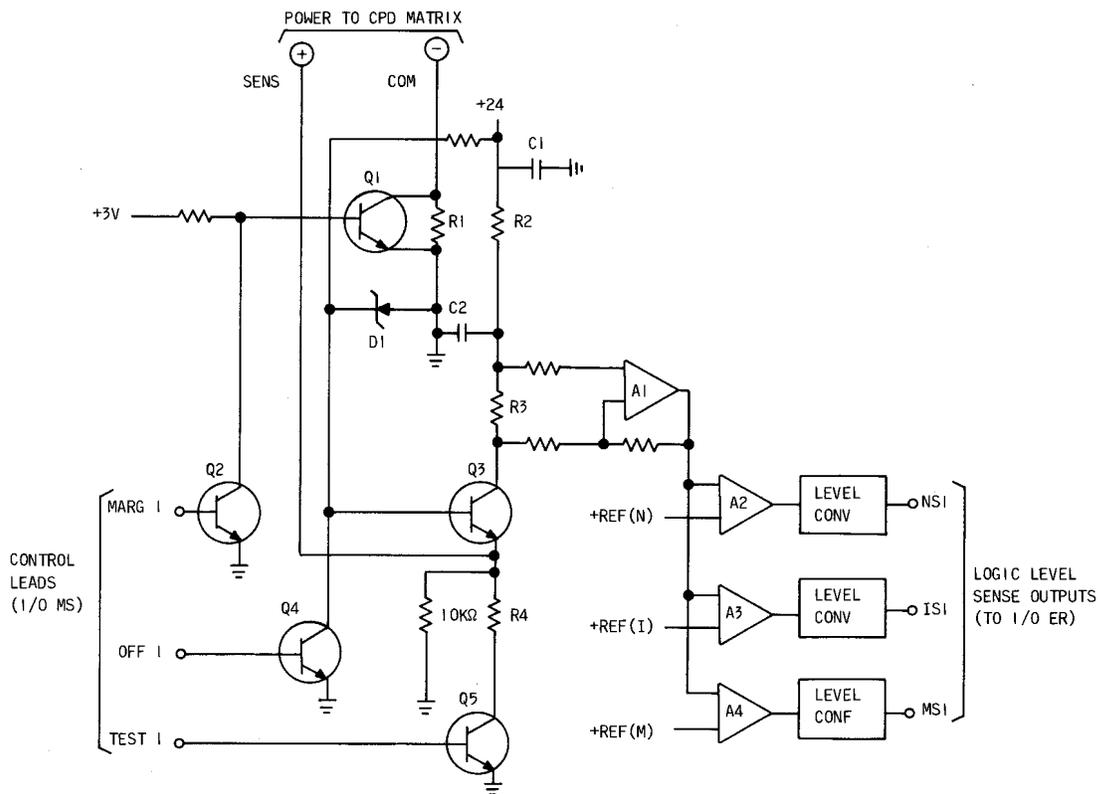

Fig. 11—Level Control Circuit
**3.34 CPD Level Control Circuit**—The voltage level used for generating the CPD pulses is controlled by the CPD level control circuit. The current through the CPD matrix is also monitored by this circuit. A simplified diagram of this circuit is shown on Fig. 11. The CPD level control circuit has four modes or states of operation. These states are the *normal*, *marginal*, *intermediate*, and *off*. Three of these operational states, (*marginal*, *intermediate*, and *off*) are used for maintenance testing.